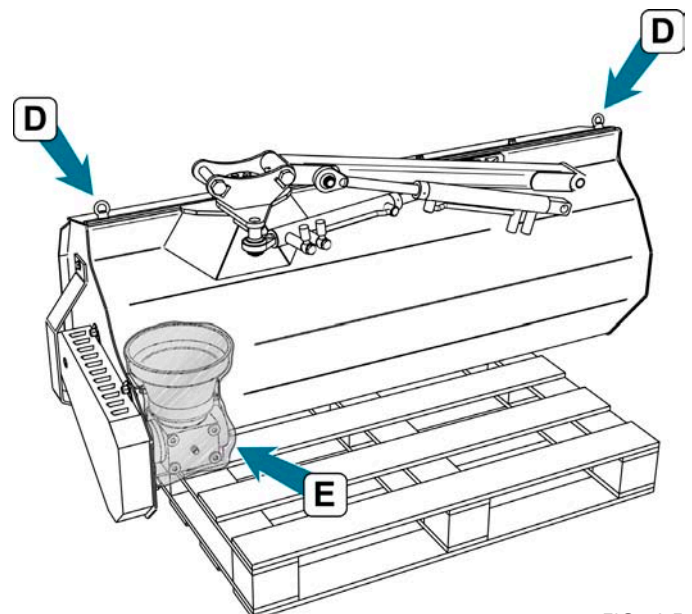

FIG. 4.5
- Remove the PTO (1) resting against the machine and wired to the same. For packaging reasons, the part that slides out has been removed from the PTO shaft, which for this reason is divided into two components. Before cutting the wire, fasten the two PTO components using straps (or chains) of adequate load capacity to a hoist in order to reduce the risk of the parts falling accidentally to the ground. Position both parts on the ground in a safe place where they will not cause obstruction during machine assembly operations. Take the part that slides out of the PTO shaft and insert it inside the PTO shaft.
- Fasten the machine to a hoist by connecting lifting chains to the corresponding eyebolts (D) indicated by the arrows in FIG. 4.5. The eyebolt in the gearbox plate can be used as a 3rd lifting point (E) and the correct horizontal positioning of the machine.